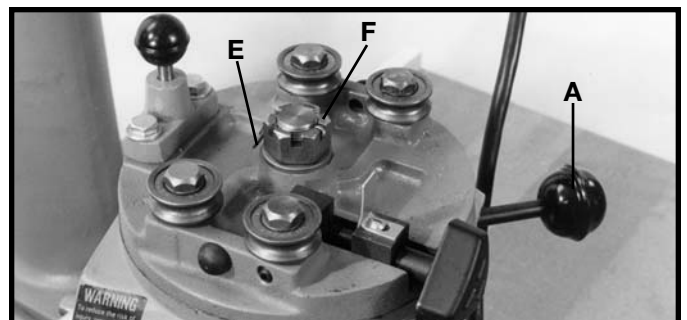

Fig. 38
5. Turn hex nut (F) Fig. 38, clockwise 60 degrees and replace cotter pin (E).